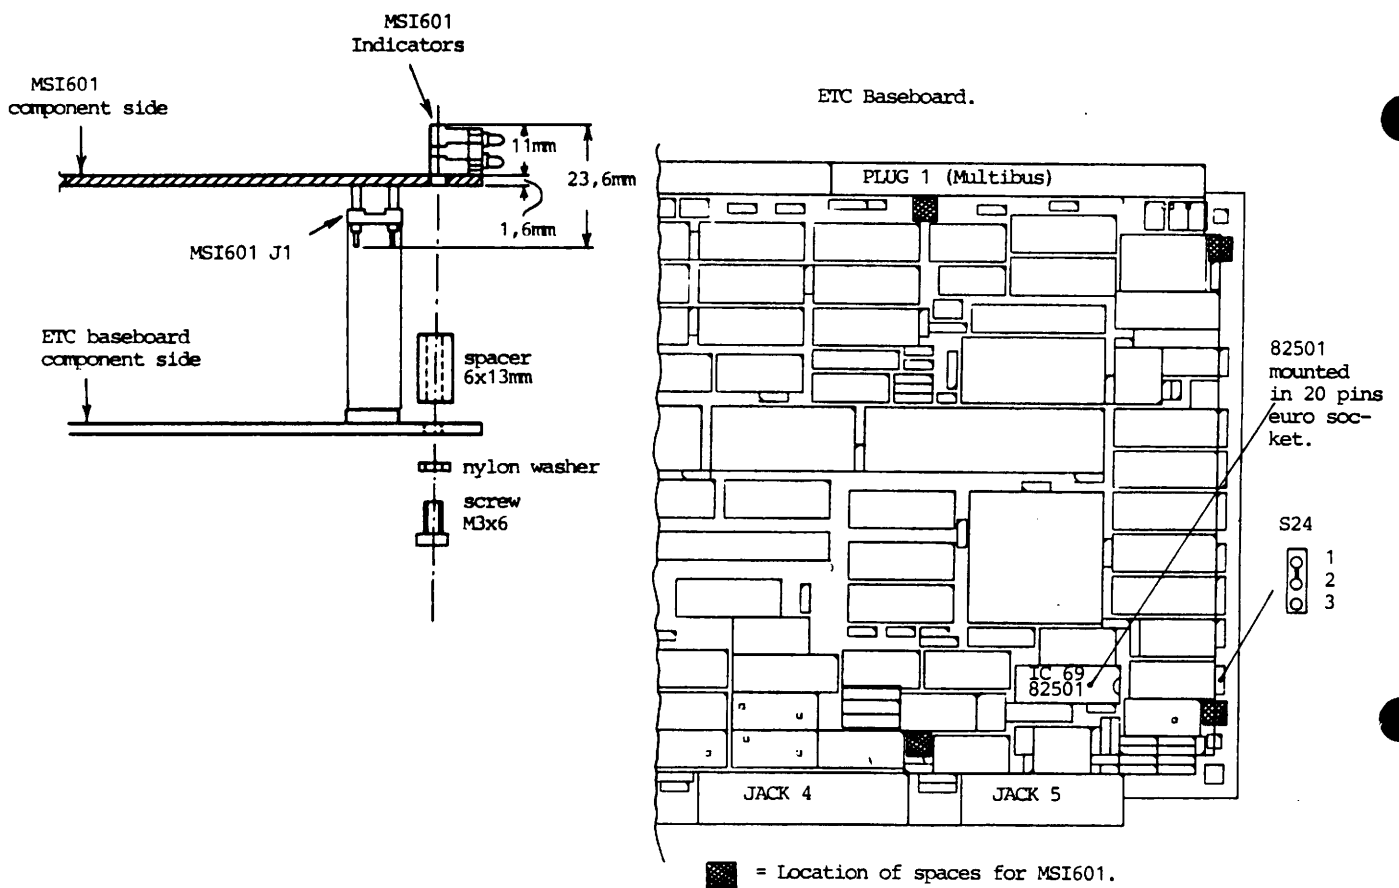

Fig. 2. Location and Installation of spacers.
- Thickness refer to fig. 2
1. Remove Intel 82501 ESI integrated circuit from IC position 69 on ETC baseboard (see fig. 2)
2. Mount 4 spacers on ETC baseboard as indicated on fig. 2.
3. Check that mini-jumper of strap S24 connects pin 1 of S24 to pin 2 as indicated in fig. 2. If not move mini-jumper to S24 pins 1-2.